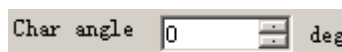

Fig. 7-11
3. Type a value in char angle or select a value from the dragdown box. (Fig. 7-11)